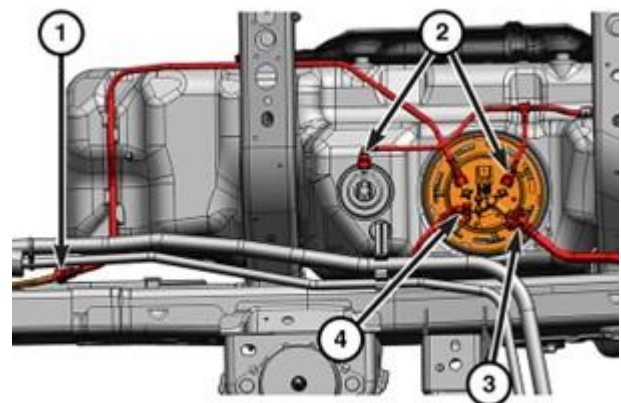

Figure 86 – Tank Connections
- 164. Connect the fuel filler vent line quick-connect fitting (3) to the fuel pump module (Figure 86).
- 165. Connect the fuel supply line quick-connect fitting (4) (Figure 86).
- 166. Connect the fuel vent line quick-connect fittings (2) (Figure 86).
- 167. Connect the return fuel line quick-connect fitting (1) at the front of fuel tank (Figure 86).